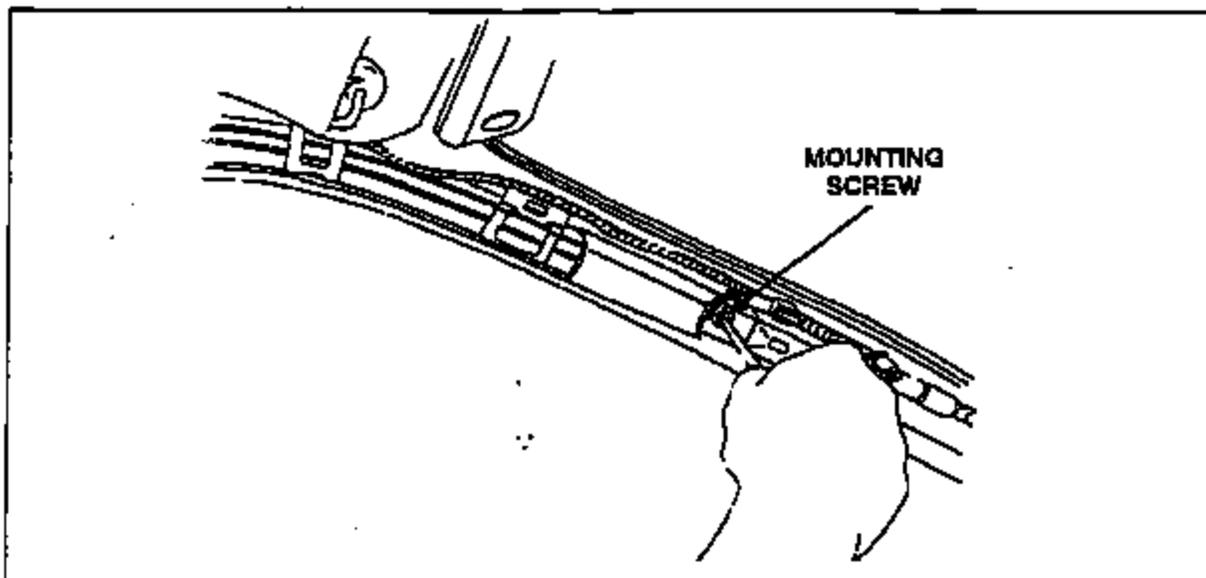

FIGURE 4
8. Remove the rail upper mounting screw. See Figure 4.